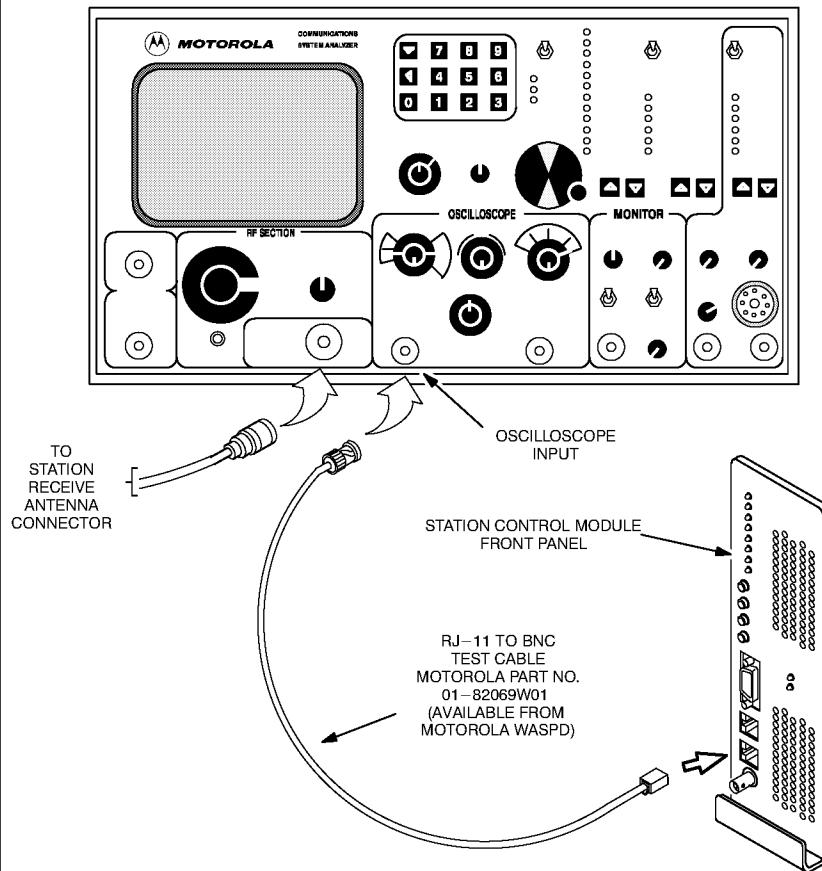

**Figure 5.** Test Equipment Setup for Verifying Receiver Circuitry
- Step 1.** Connect test equipment by performing Steps 1–3 shown in Figure 5.